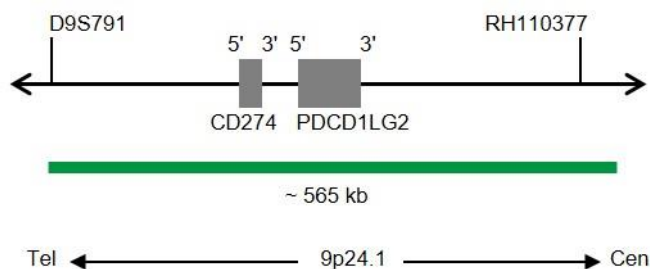

Fig. 1: SPEC CD274,PDCD1LG2 Probe map (not to scale)
- ZyGreen (excitation 503 nm/emission 528 nm) labeled polynucleotides (~10 ng/ μ l), which target sequences mapping in 9p24.1* (chr9:5,253,553-5,819,972) harboring the CD274, PDCD1LG2 gene cluster (see Fig. 1).